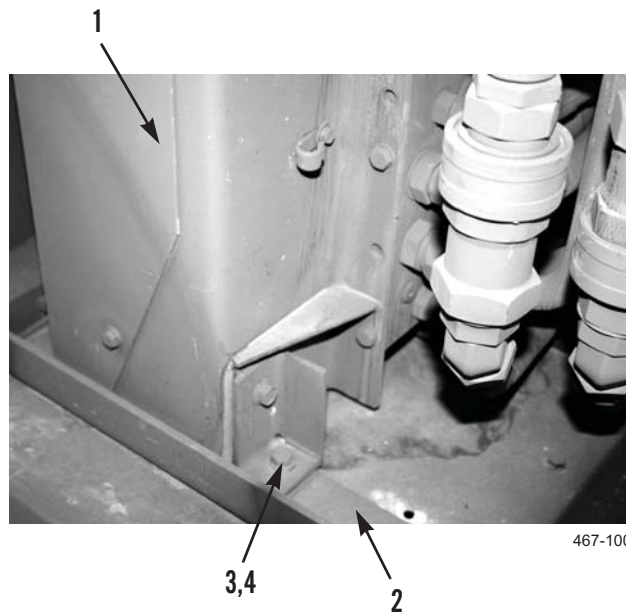

Figure 10. HEMTT Hydraulic Control Box Removal.
27. Remove four bolts (Figure 10, Item 3) and nuts (Figure 10, Item 4) from hydraulic control box (Figure 10, Item 1). Set aside for reinstallation.
28. Attach sling and lifting device to hydraulic control box (Figure 10, Item 1).
29. Use lifting device to remove hydraulic control box (Figure 10, Item 1) from support brackets (Figure 10, Item 2) and temporarily position out of way.